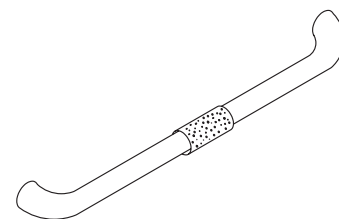

Figure 31
- Install foam grip on lid handle. **See Figure 31.**